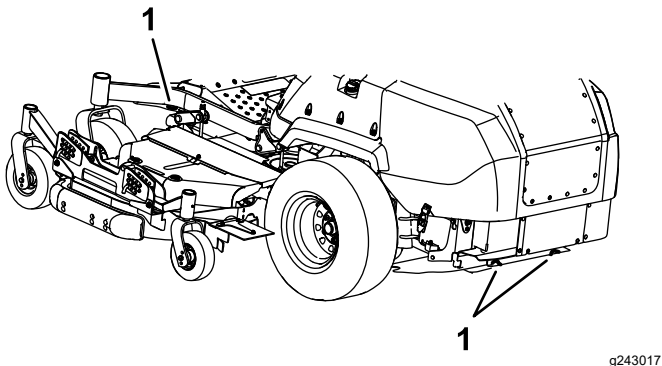

Figure 37
6. Tie down the machine near the front caster wheels and the rear frame with straps, chains, cable, or ropes (Figure 37). Refer to local regulations for tie-down requirements.